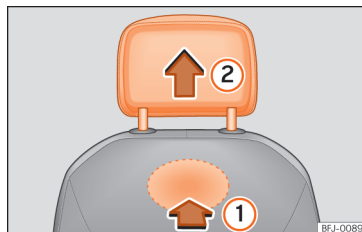

Fig. 65 Front headrest: removal.
- To unlock it, look for the button underneath the headrest and press in the direction of the arrow »» Fig. 65 ①.
- Remove the headrest in the direction of the arrow ②.